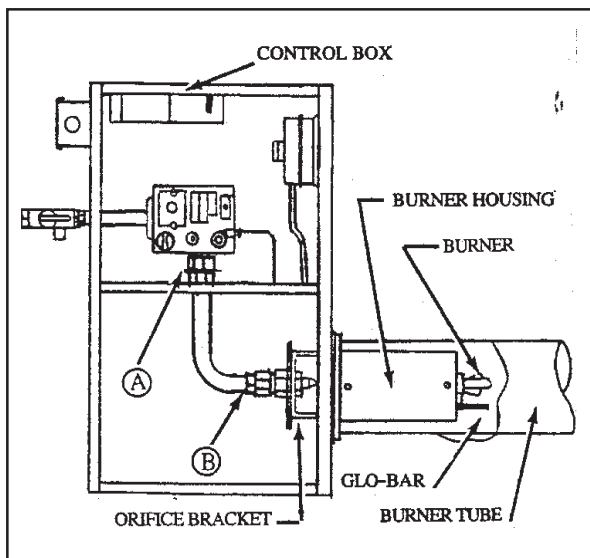

Figure 4.1
2. Remove cover from control box (see Figure 4.1).